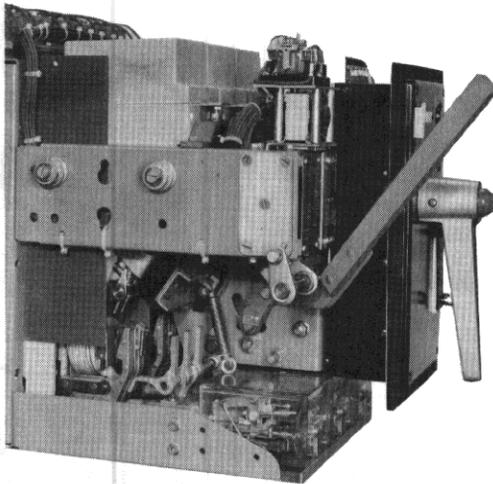

Figure 5
5. Insert **maintenance** closing handle #1151-9252 as in Figure 5 and slowly operate until arcing contacts touch. All arcing contacts should make simultaneously with a permissible variation of $1/32$ max. Movable arcing contact fingers should align with stationary arcing contacts.